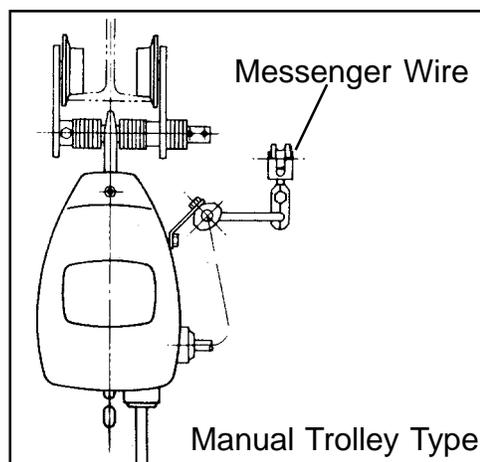

Fig. 4
- Install the messenger wire (Fig. 4). For PT and GT types, the wire should be on the right side of the cable hanger arm of the hoist.